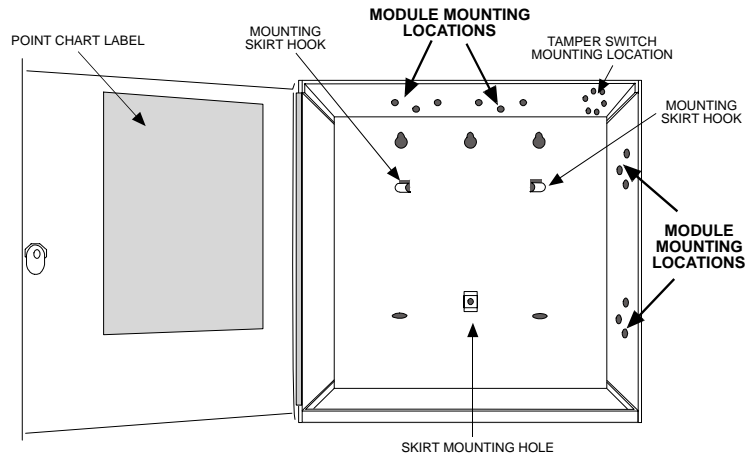

Figure 4: Mounting Enclosure
1. Align the OctoPOPIT module with any of the four mounting locations in the enclosure (refer to Figure 4).